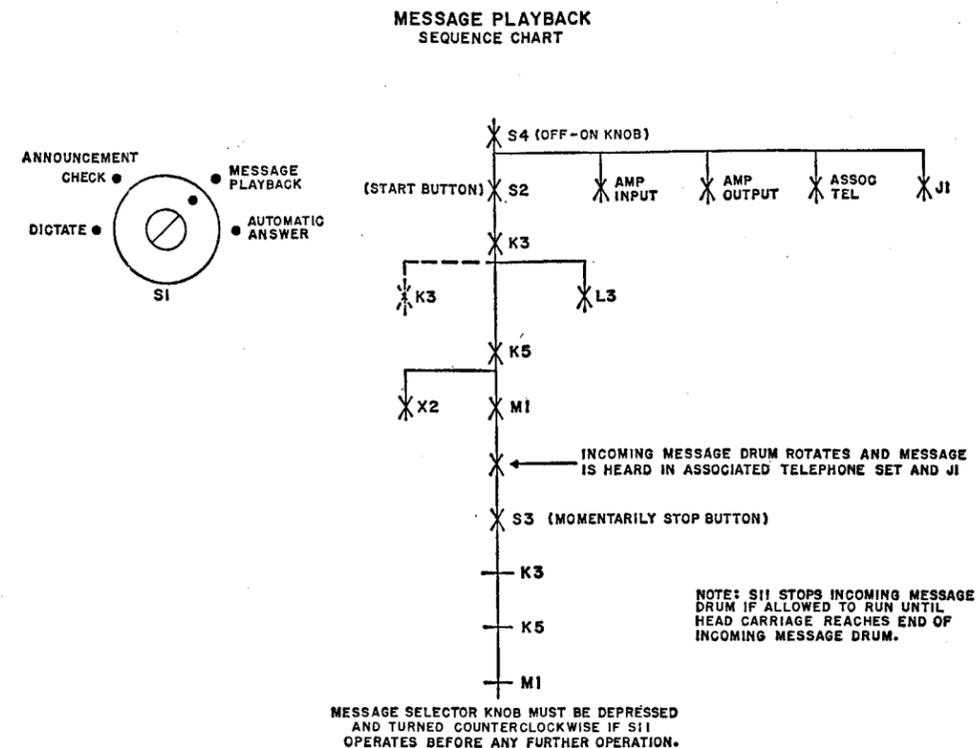

Fig. 5
- Message Playback (Fig. 5 and 6)